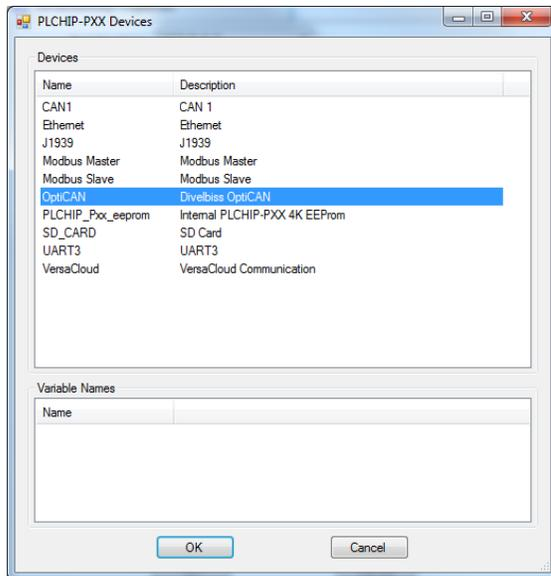

Figure 2-35 - PLCHIP-PXX Devices - OptiCAN
- Click / select **OptiCAN** (highlight). Refer to Figure 2-35.